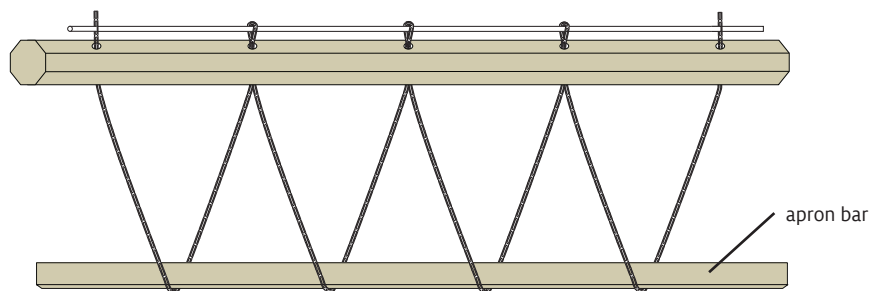

FIGURE 2
2. Thread the free end of the cord through the outermost hole on one end of the warp beam—an unbent paper clip will help here. Pull the cord through the hole until the cord and the dowel are snug against the warp beam (Figure 2).